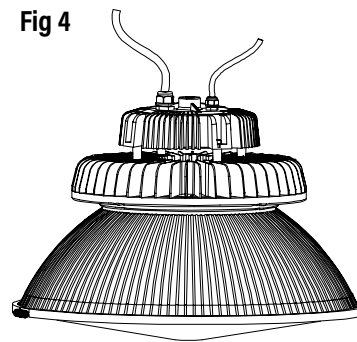

Fig 4
2. Attach spring to the metal ring where the ends over lap. (Fig. 4)